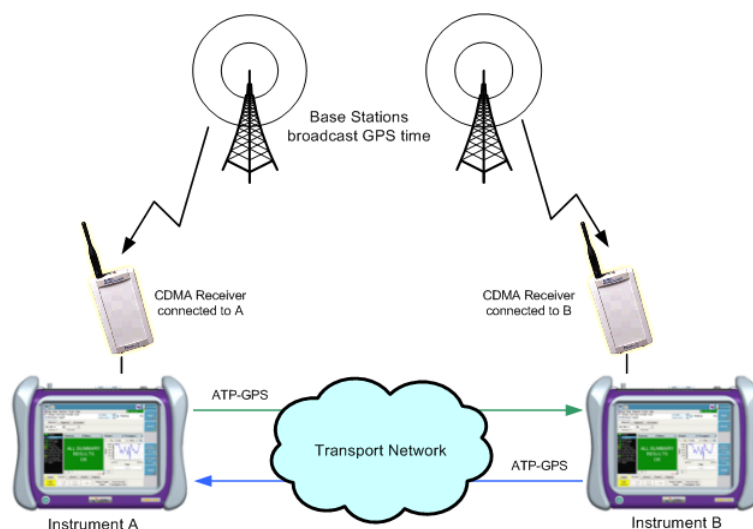

Figure 22 Typical one way delay configuration
Figure 22 shows a typical placement of the test instruments and their relationship to the CDMA receivers and base stations. In this configuration, synchronized instrument B measures the delay in traffic received from instrument A, and synchronized instrument A measures the delay in traffic received from instrument B. Each instrument operates in terminate mode, and only measures delay on the *inbound link*.
- Both ports can be used on the instruments for one way delay testing. In Figure 22 on page 102, one port is used to transmit traffic and measure delay from instrument A to B, and a second port is used to transmit traffic and measure delay from instrument B to A.